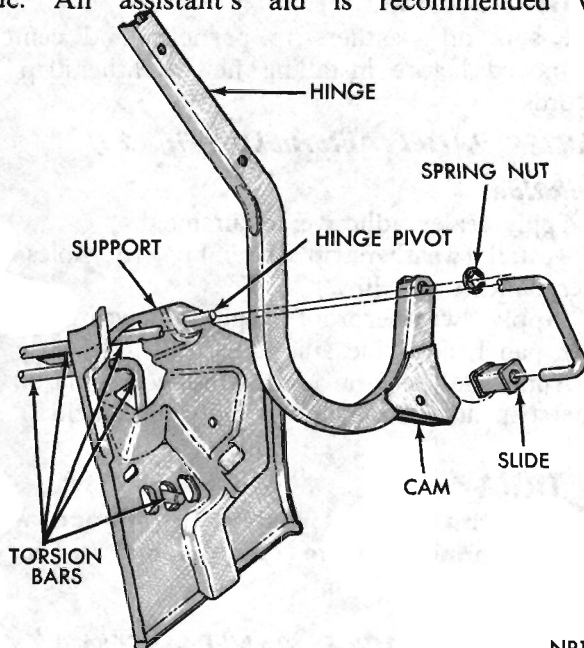

Fig. 32 - Deck Lid Hinge and Torsion Bar
The deck lid hinges (Fig. 32) permit only slight adjustment at the hinge attaching points. The hinge brackets are welded in place and are not adjustable.
- (1) Remove the deck lid.
- (2) **Use care when disengaging a torsion bar as it is under a load.** Disengage torsion bar roller from hinge being removed.
- (3) Remove spring nut retaining hinge to hinge bracket (Fig. 32) and remove hinge.